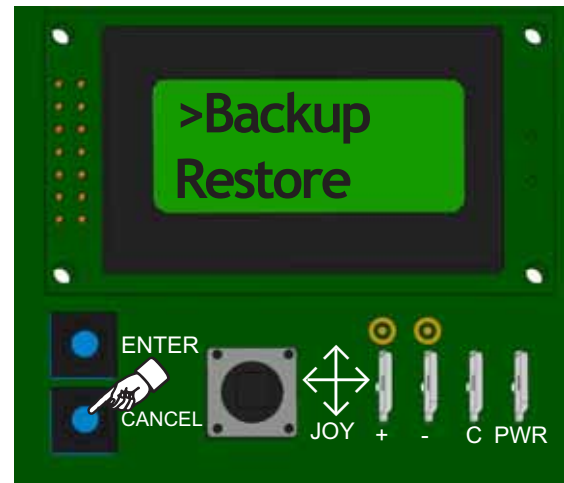

Figure 8 - Backup menu
- Select **Backup** and press ENTER. See Figure 8.